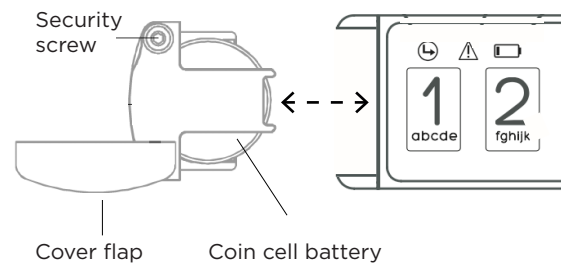

Fig. 7 - Battery in Casing
2. Make sure the battery is in its casing (Fig. 7). The casing has a cover flap that swings open to reveal a security screw underneath. With the cover flap open and security screw "up" (facing you), slide the casing into the slot on the left side of the keypad (Fig. 7).